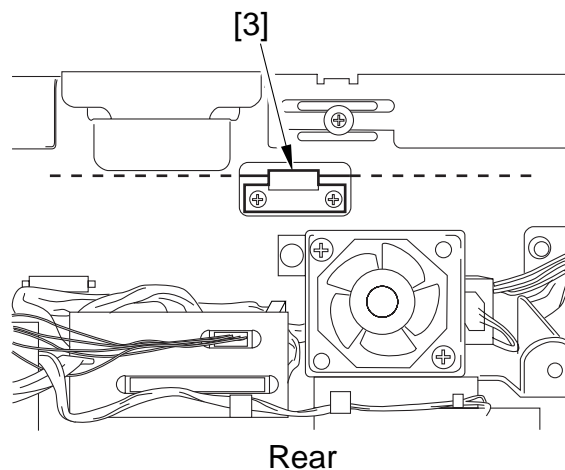

Figure 3-B505
10) Rout the scanner cable through the pulley and hooks as shown in Figure 3-B506.